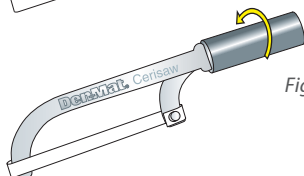

Fig. 2
3. Turn the handle grip clockwise to tighten the handgrip, which also tightens the pins and CeriSaw strip. (Fig. 2)